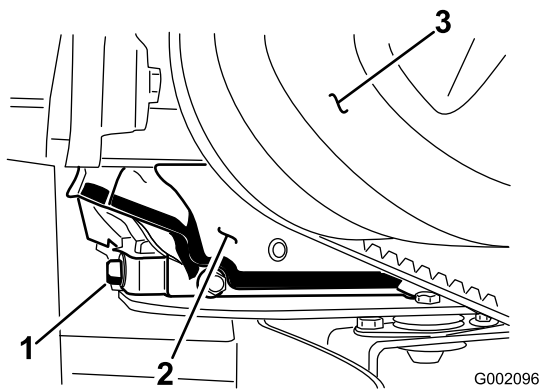

Figure 31
5. Align a drain pan with a 1.5 L (1.6 qt) capacity under the drain plug (Figure 31).
6. Remove the drain plug (Figure 31).